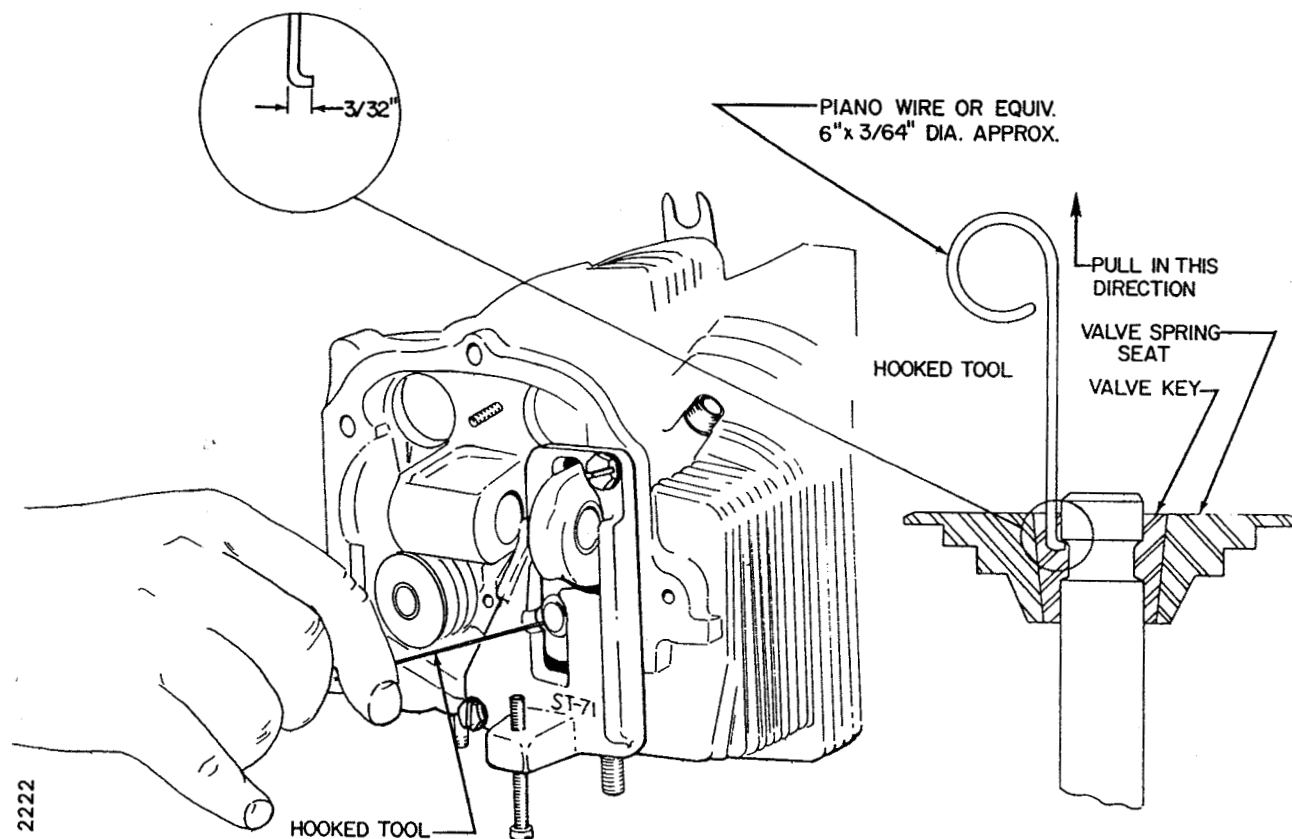

Figure 4. Method of Using Hooked Wire Tool to Pull Valve Into Position For Removal of Tapered Keys
8. Engines Equipped With Solid Stem Exhaust Valves: Remove the tapered valve retaining keys by moving the piston of the cylinder being inspected to near its top end of travel. This will eliminate any chance of the valve sliding into the cylinder after the tapered keys are removed. Fabricate a small hooked tool as shown in Figure 4 and insert it between the valve keys engaging the hook of the tool with the underside of the valve tip as shown in Figure 4. Tap on the fixture with a plastic headed hammer while exerting a steady pull on the valve stem, with the hooked tool, until the valve keys release.